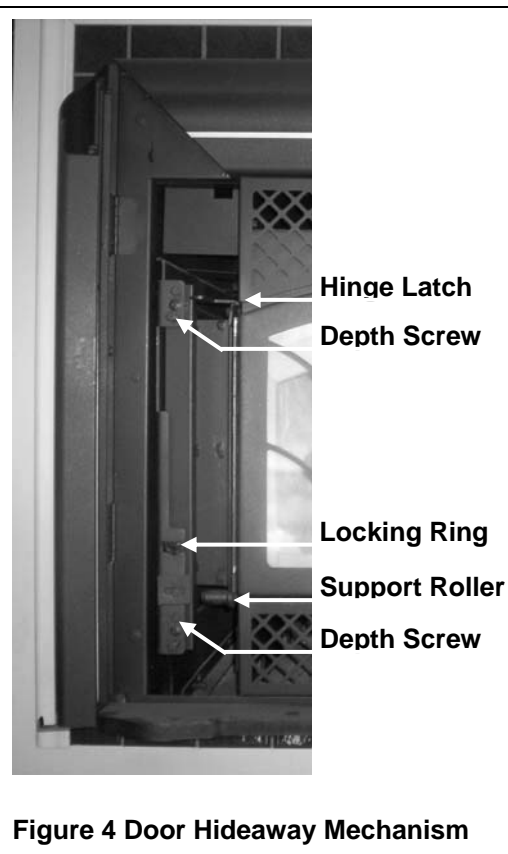

Figure 4 Door Hideaway Mechanism
The TOPAZ fireplace is equipped with a door hideaway mechanism which enables you to hide the door behind the left extrusion when you need to service the firebox or when you wish to put the firescreen on. The mechanism is quite sophisticated but fairly easy to operate once the basics are understood. Please refer to Figure 4 while reading the following instructions.
Start by opening the left extrusion, using the handle at the bottom of the extrusion. As shown in Figure 4, there is a latch at the top that locks the door hinge against the left side of the firebox so as to provide an adequate position of the door for regular door operation. Unlocking this latch, enables the door to rotate around a special hinge to move the door away from the left side of the firebox. To lock the latch, make sure the door hinge is flat against the left side of the firebox. We recommend that the door be closed and then the latch locked on the hinge. The latch operation requires some force but if excessive force seems necessary, then something is not working properly.
1. With the door properly closed, unlock the locking ring by turning it counter-clockwise until it is horizontal (see Figure 4).
8. Now hide and unhide the door while looking carefully at the door. If you find that the door binds up excessively when you are sliding the door in and out, you need to adjust the height of the door support roller. It is located beside the bottom depth screw as shown in Figure 4.